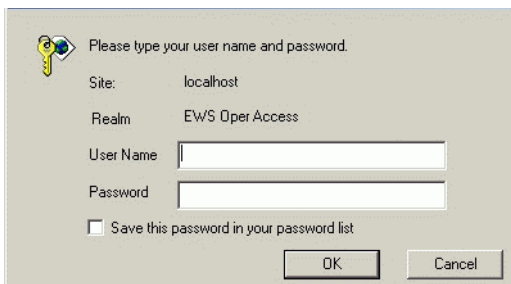

Figure 3-8 Username and Password Required Dialog Box
- c. At the *Netsite* field (Netscape Navigator) or *Address* field (Internet Explorer), type **http://xxx.xxx.xxx.xxx**, where **xxx.xxx.xxx.xxx** is the IP address of the director. The *Username and Password Required* dialog box appears (Figure 3-8).